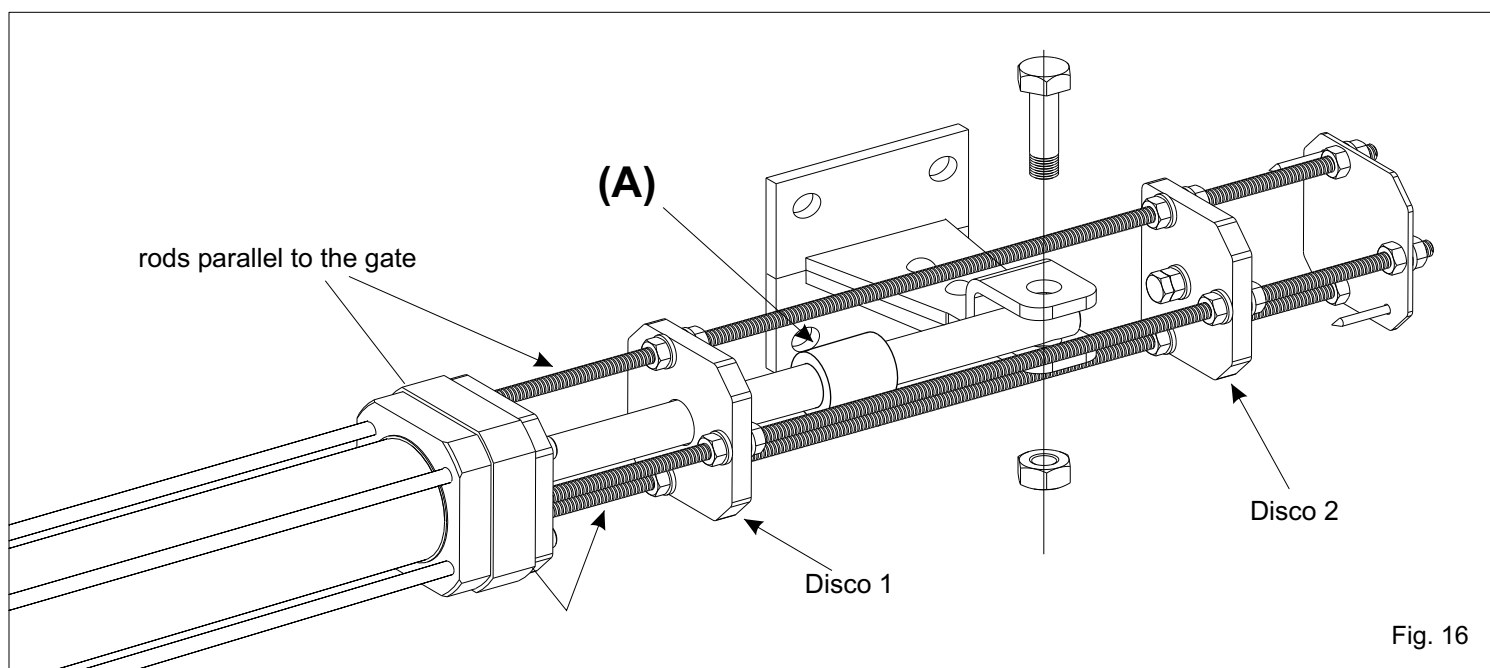

Fig. 16
- Put the positive stops into the front flange of the unit with the two tie rods (of the three present on the stops) which are parallel to the gate (Fig. 16)
- Only Mini Tank : Put the provided bush (A) into the shaft